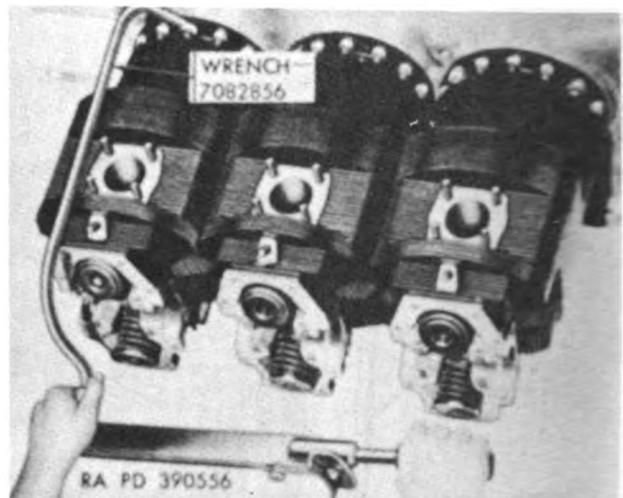

Figure 52. Torquing cylinder holddown nuts.
- (2) *Check torque of cylinder holddown nuts.*
- (a) Using a torque wrench in combination with wrench 7082856 (fig. 52) on smaller hex holddown nuts,